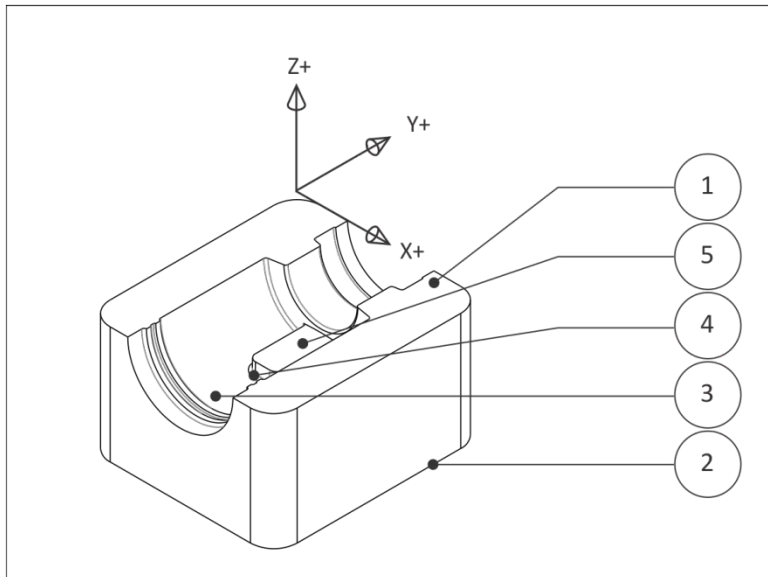

Figure 3: 3D Part
3D refers to non-prismatic parts, including molds and complex organic shapes. Most consumer goods, for example, include 3D features. Figure 3 shows half of a stamping die. This part is typical in that it includes both 3D and 2D features. The 2D features are the top face (1), and the outside contour (2).